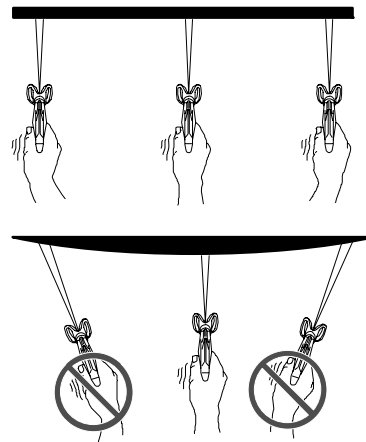

Fig. 38
- Flex wrist to keep gun pointed straight. Fanning gun to direct spray at angle causes uneven finish (Fig. 38).